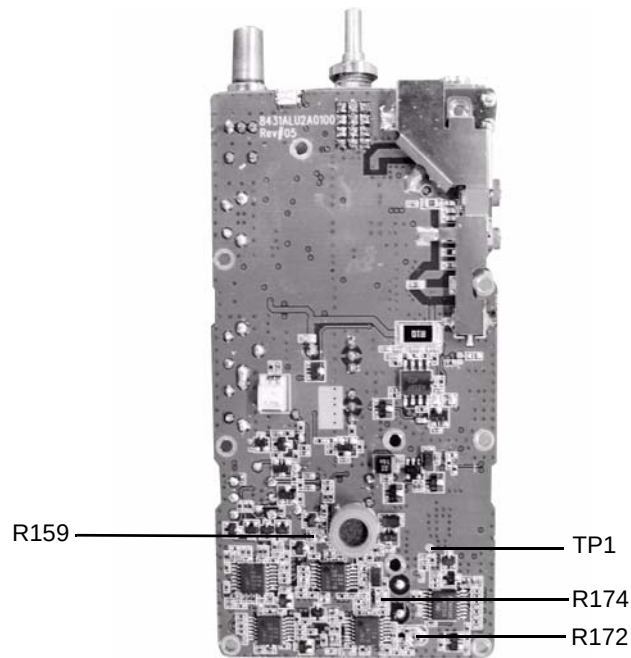

Figure 3-3 Top Side of PCB
6. Using the ceramic tool, adjust R174 to tune to 100% of the maximum deviation (refer to Figure 3-3).
5. Using the ceramic tool, adjust R159 to tune maximum modulation between $2.4 \pm 0.02\text{KHz}$ for narrow band or under 5KHz for wide band (refer to Figure 3-3).
5. Using the ceramic tool, adjust R172 to tune subtone modulation between $0.42 \pm 0.02\text{KHz}$ at narrow band. (refer to Figure 3-3)
2. Detect output voltage at test point TP1 (refer to Figure 3-3).